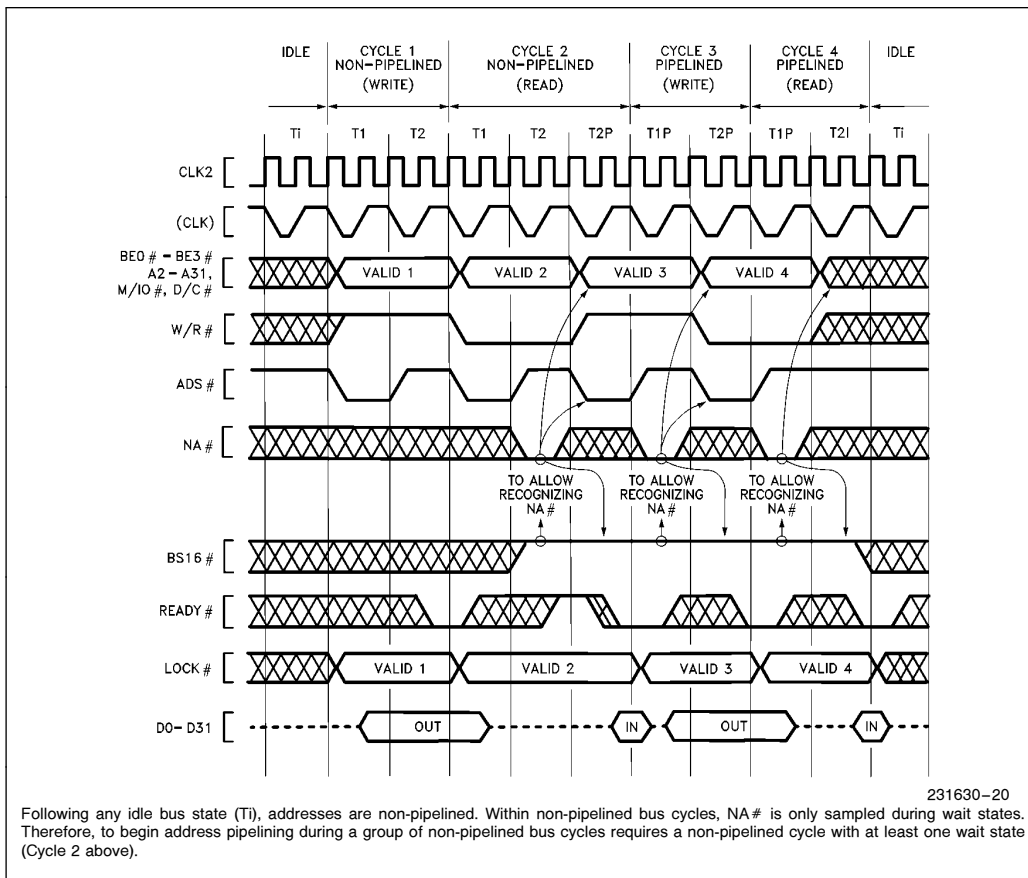
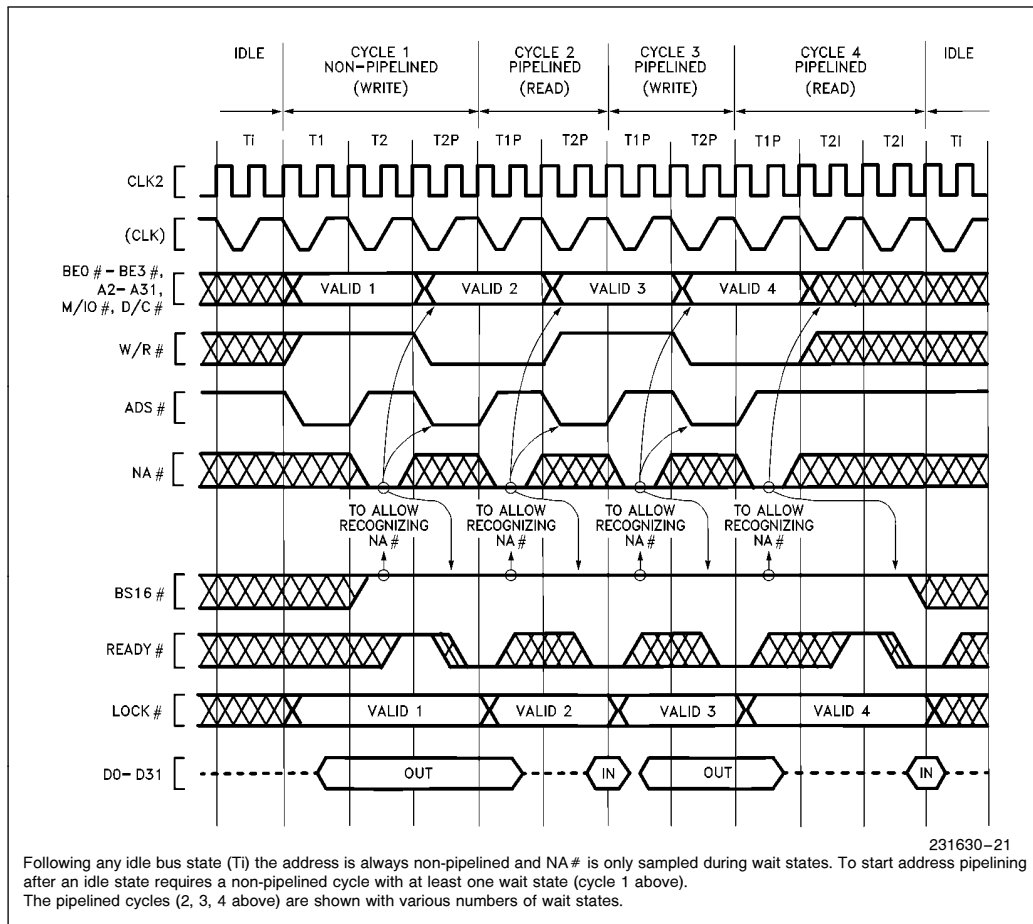
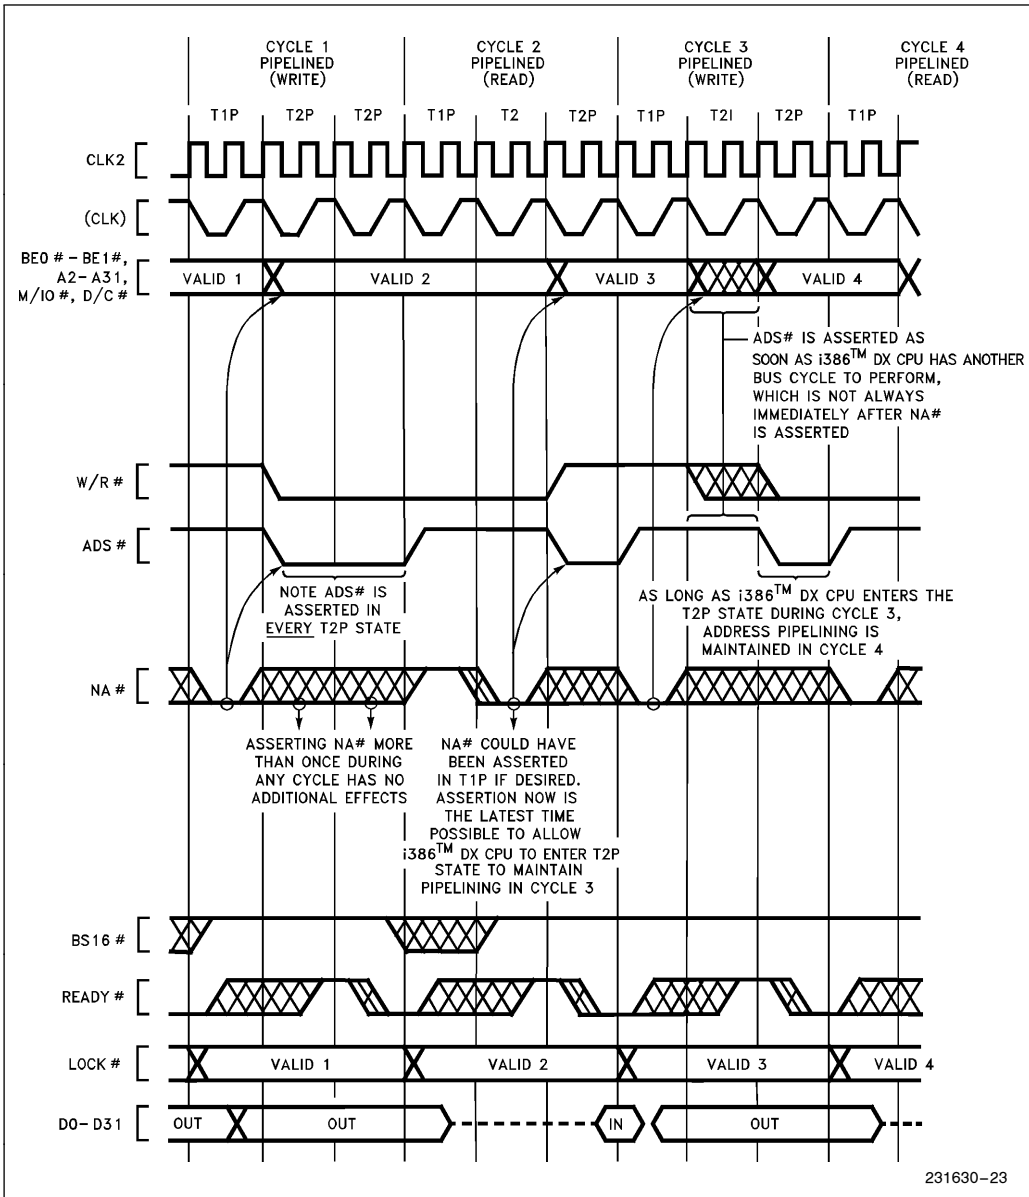

Figure 5-16. Transitioning to Pipelined Address During Burst of Bus Cycles
Figure 5-17. Fastest Transition to Pipelined Address Following Idle Bus State
Figure 5-19. Details of Address Pipelining During Cycles with Wait States
Once a bus cycle is in progress and the current address has been valid for at least one entire bus state, the $NA\#$ input is sampled at the end of every phase one until the bus cycle is acknowledged. During non-pipelined bus cycles, therefore, $NA\#$ is sampled at the end of phase one in every T2. An example is Cycle 2 in Figure 5-16, during which $NA\#$ is sampled at the end of phase one of every T2 (it was asserted once during the first T2 and has no further effect during that bus cycle).
- 1) For $NA\#$ to be sampled asserted, $BS16\#$ must be negated at that sampling window (see Figure 5-16 Cycles 2 through 4, and Figure 5-17 Cycles 1 through 4). If $NA\#$ and $BS16\#$ are both sampled asserted during the last T2 period of a bus cycle, $BS16\#$ asserted has priority. Therefore, if both are asserted, the current bus size is taken to be 16 bits and the next address is not pipelined.
- 2) The next address may appear as early as the bus state after NA# was sampled asserted (see Figures 5-16 or 5-17). In that case, state T2P is entered immediately. However, when there is not an internal bus request already pending, the next address will not be available immediately after NA# is asserted and T2I is entered instead of T2P (see Figure 5-19 Cycle 3). Provided the current bus cycle isn't yet acknowledged by READY# asserted, T2P will be entered as soon as the Intel386 DX does drive the next address. External hardware should therefore observe the ADS# output as confirmation the next address is actually being driven on the bus.
must assume the current bus size is 32 bits. Therefore if NA# is sampled asserted within a bus cycle, BS16# must be negated thereafter in that bus cycle (see Figures 5-16, 5-17, 5-19). Consequently, do not assert NA# during bus cycles which must have BS16# driven asserted. See **5.4.3.6 Dynamic Bus Sizing with Pipelined Address.**
- 4) Any address which is validated by a pulse on the Intel386 DX ADS# output will remain stable on the address pins for at least two processor clock periods. The Intel386 DX cannot produce a new address more frequently than every two processor clock periods (see Figures 5-16, 5-17, 5-19).
- 5) Only the address and bus cycle definition of the very next bus cycle is available. The pipelining capability cannot look further than one bus cycle ahead (see Figure 5-19 Cycle 1).
The transition to pipelined address is shown functionally by Figure 5-17 Cycle 1. Note that Cycle 1 is used to transition into pipelined address timing for the subsequent Cycles 2, 3 and 4, which are pipelined. The NA# input is asserted at the appropriate time to select address pipelining for Cycles 2, 3 and 4.
Once a bus cycle is in progress and the current address has become valid, the NA# input is sampled at the end of every phase one, beginning with the next bus state, until the bus cycle is acknowledged. During Figure 5-17 Cycle 1 therefore, sampling begins in T2. Once NA# is sampled asserted during the current cycle, the Intel386 DX is free to drive a new address and bus cycle definition on the bus as early as the next bus state. In Figure 5-16 Cycle 1 for example, the next address is driven during state T2P. Thus Cycle 1 makes the transition to pipelined address timing, since it begins with T1 but ends with T2P. Because the address for Cycle 2 is available before Cycle 2 begins, Cycle 2 is called a pipelined bus cycle, and it begins with T1P. Cycle 2 begins as soon as READY# asserted terminates Cycle 1.
Example transition bus cycles are Figure 5-17 Cycle 1 and Figure 5-16 Cycle 2. Figure 5-17 shows transition during the very first cycle after an idle bus state, which is the fastest possible transition into address pipelining. Figure 5-16 Cycle 2 shows a transition cycle occurring during a burst of bus cycles. In any case, a transition cycle is the same whenever it occurs: it consists at least of T1, T2 (you assert NA# at that time), and T2P (provided the Intel386 DX has an internal bus request already pending, which it almost always has). T2P states are repeated if wait states are added to the cycle.
Note three states (T1, T2 and T2P) are only required in a bus cycle performing a **transition** from non-pipelined address into pipelined address timing, for example Figure 5-17 Cycle 1. Figure 5-17 Cycles 2, 3 and 4 show that address pipelining can be maintained with two-state bus cycles consisting only of T1P and T2P.
Once a pipelined bus cycle is in progress, pipelined timing is maintained for the next cycle by asserting NA# and detecting that the Intel386 DX enters T2P during the current bus cycle. The current bus cycle must end in state T2P for pipelining to be maintained in the next cycle. T2P is identified by the assertion of ADS#. Figures 5-16 and 5-17 however, each show pipelining ending after Cycle 4 because Cycle 4 ends in T2I. This indicates the Intel386 DX didn't have an internal bus request prior to the acknowledgement of Cycle 4. If a cycle ends with a T2 or T2I, the next cycle will not be pipelined.